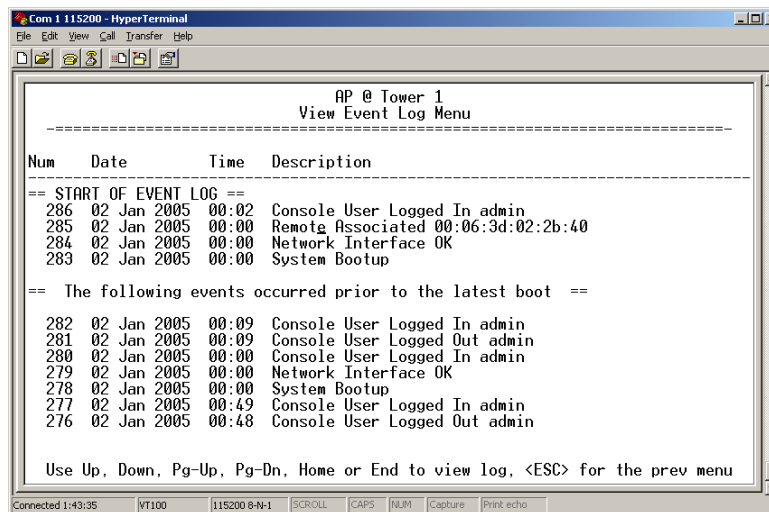

Figure 3-87. View Event Log Menu
- **View Event Log**—Displays a log of radio events arranged by event number, date, and time. (Example shown in Figure 3-87 on Page 116).